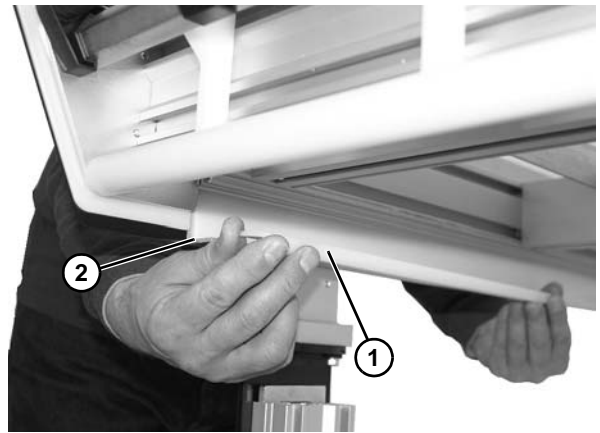

Figure 44
1. Slide J-leg wear strips (Figure 44, item 1) from lower frame (Figure 44, item 2).